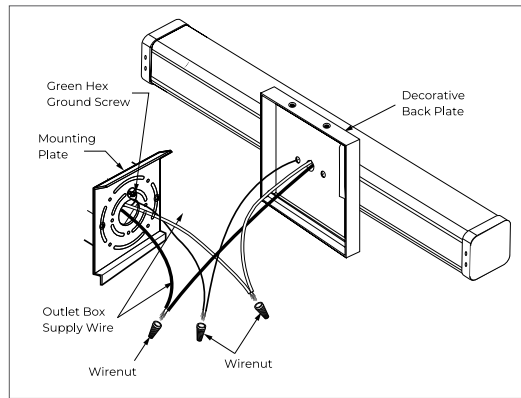

FIGURE 2
- B)** Follow wiring instructions in Figure 2 and in wiring section.